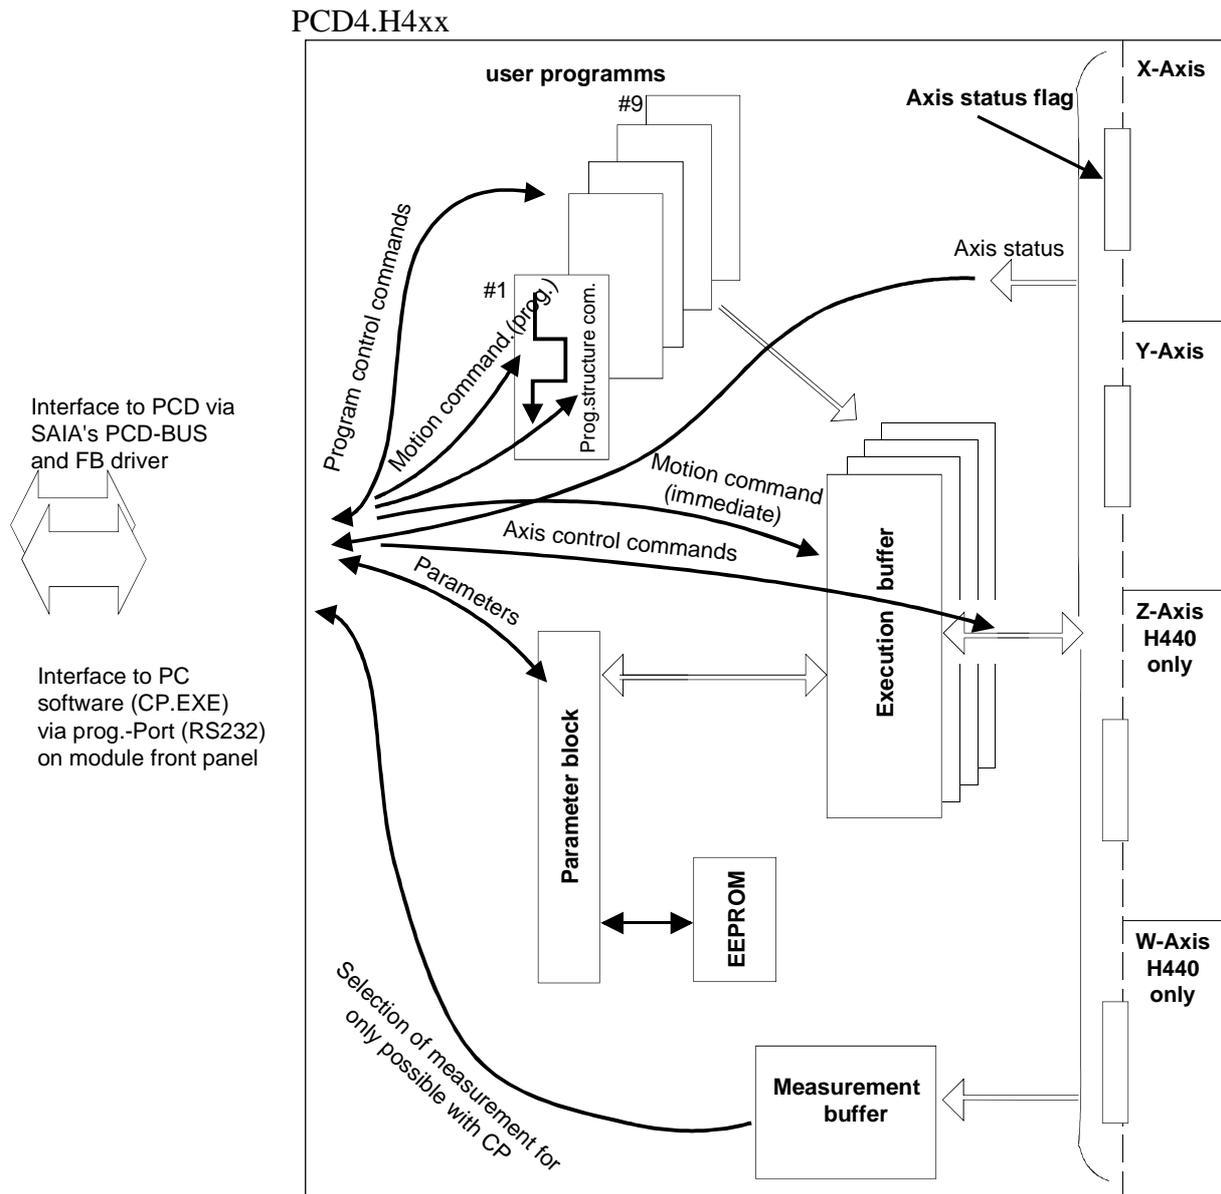

Figure 6.02
Figure 6.02 shows that there are two types of motion command. 'Immediate' motion commands are transferred directly to the execution buffer and carried out consecutively. 'Program' motion commands are not executed directly, but are written to an H4 program (no. 1 - 9). In the command list (section 7.5) the 'ip Parameter' column indicates the execution mode in which each command operates. (I = immediate only, P = program only, IP = immediate + program)
Figure 6.02 shows that each axis includes an axis status flag. This can be used, for example, to determine whether an axis has reached its end-of-travel switch, whether position control is active, or if the home process has finished. These axis status flags are queried with the 'Query status x' instruction. Please refer to the command list (section 7.5) for individual flags and their meanings.
6.2.7 Measurement buffer (see diagram on page 1-3 and figure 6-02)